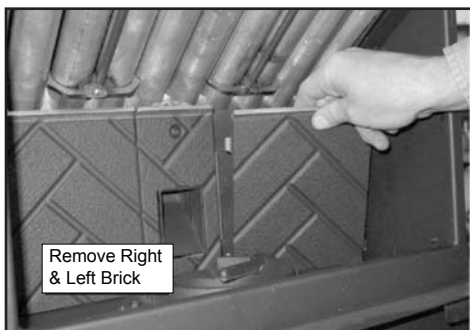

Figure 39.2
3. The top baffle must be removed before you can remove the right and left brick. Remove the right brick by holding top lip of brick and lifting up, then push outside edge back. Slide brick to the right until it is flush with the firebox. Rotate the inside edge of the brick forward and remove brick. Repeat for left brick. **Figure 39.2.**